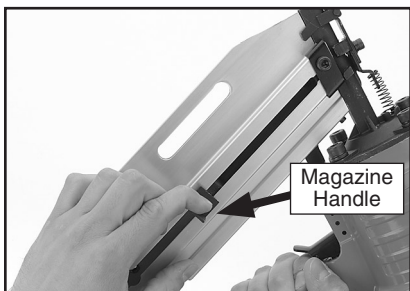

Figure 3. Sliding magazine back and engaging the catch.
2. Slide the magazine back, as shown in **Figure 3**, until it locks in place.